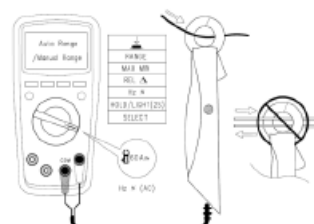

Figure 11
- 60AAC and DC current clamp measurement (See Figure 11).